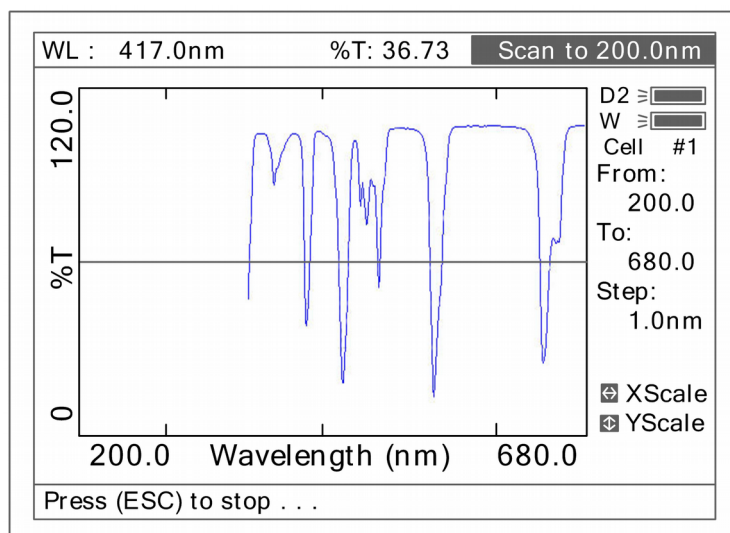
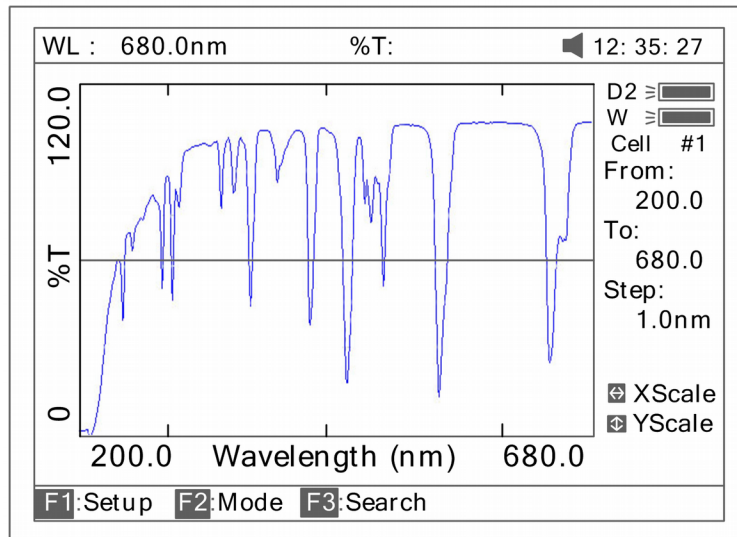

Fig 45
Fig 46
4. Put the sample cuvette into Main Light Path, press **(START)** to scan the sample (Fig 45) **(ESC/STOP)** to stop scanning. When scan has finished the beeper beeps 3 times (Fig 46).
Note: The report always is printed in Fig 46.